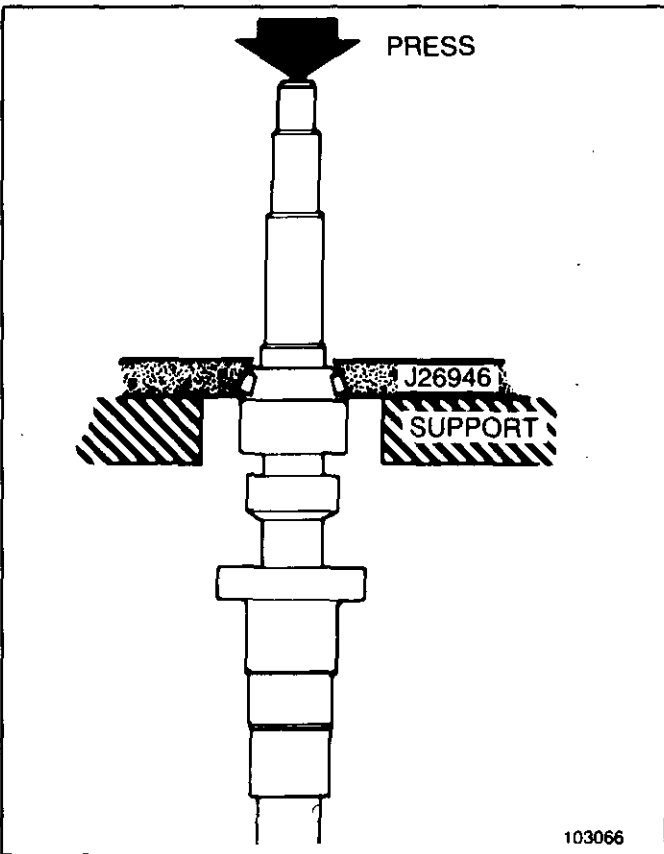

Figure 17 Removing R.H. Bearing (Input)
4. Remove R.H. bearing from shaft using J-26946 (Figure 17).